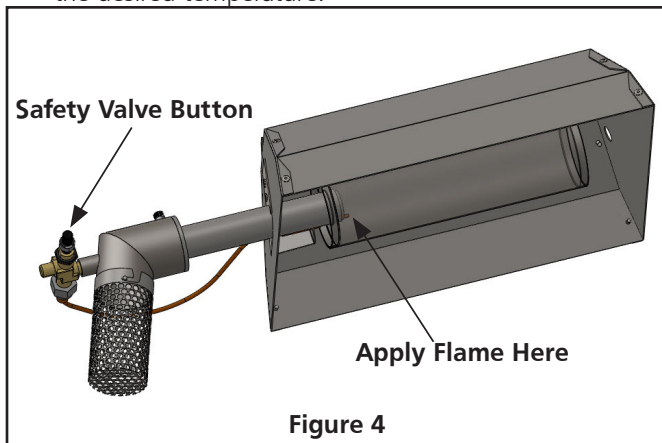

Figure 4
2. Fully depress the button on the heater's valve while applying flame at the lower end of the burner. See Figure 4.